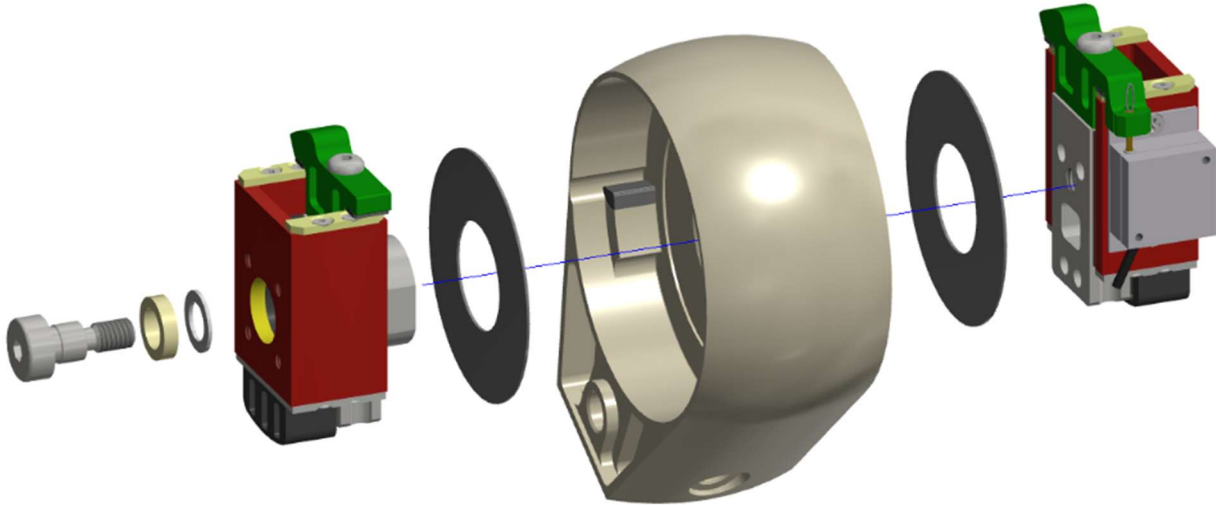

Figure 9-20. Remove the M8 X 10 LG. SHSS from the right side of the Knee Assembly (474-5400)
- 9.2.13 Remove the M8 X 10 LG. SHSS from the right side of the Knee Assembly (474-5400) (Figure 9-20). The bolt is on the same side of the knee for both the left and right legs.